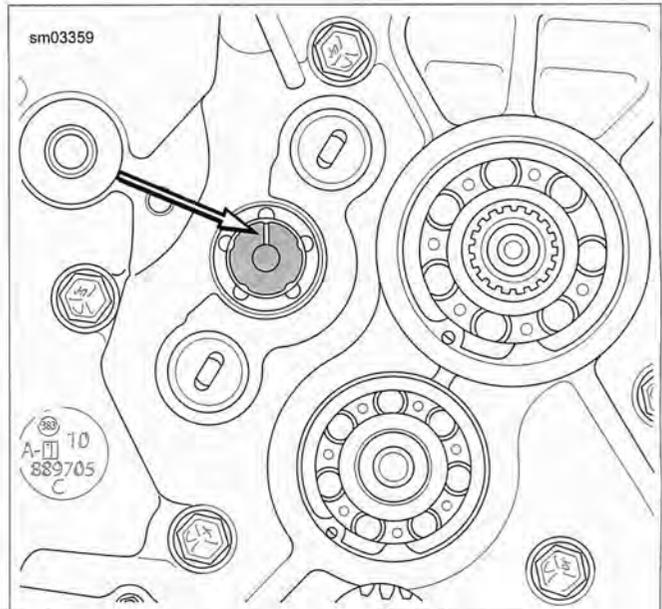

Figure 5-50. Scribed Line on Shifter Drum at 12 o'clock
12. See Figure 5-50. With transmission still in neutral, scribe a line on the end of the shifter drum at the 12 o'clock position for later reference.